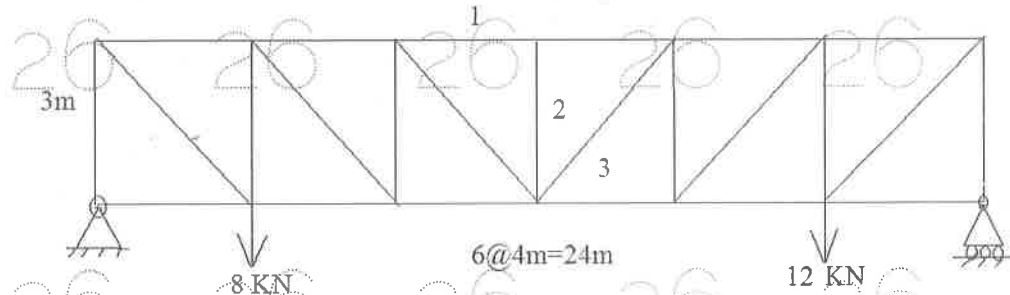

Figure: 2
3. Determine the forces in the members 1(horizontal), 2(vertical) and 3(inclined) of the truss shown in Figure 2 by method of sections. [10]